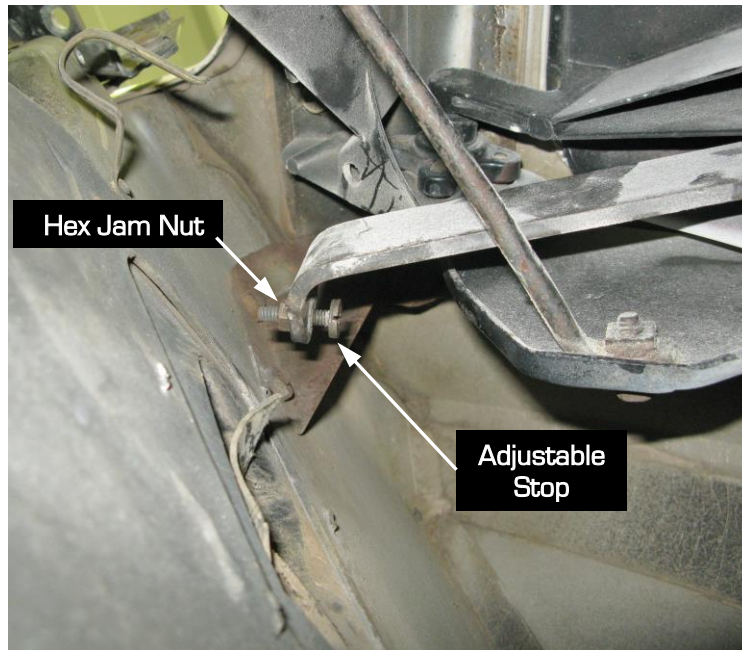

Figure 10 - Headlight Door Stop
10. Remove the adjustable stop from the arm on the headlight door assembly. Move the hex jam nut from the front side to the back side of the bracket and re-install the stop (Figure 10). This will give you more adjustment once the round bumper pad is installed. The stop will need to be adjusted later when testing the headlight door actuators.
41. Adjust the height of the stops on the doors as needed by adjusting the hex jam nut and moving the stop on the arm (Refer to Figure 10). That way the headlight doors will be open at the same height.